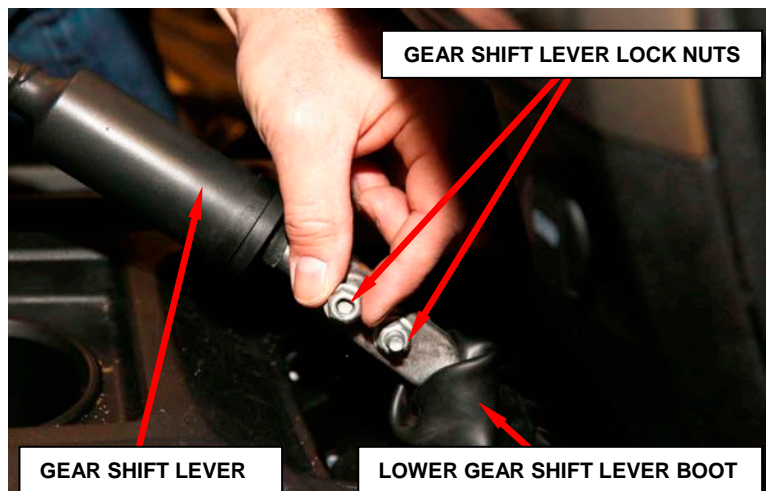

Figure 6 – Lock Nuts
8. Insert the **NEW** gearshift lever into transmission lever and hand start the **NEW** provided lock nuts (Figure 6).